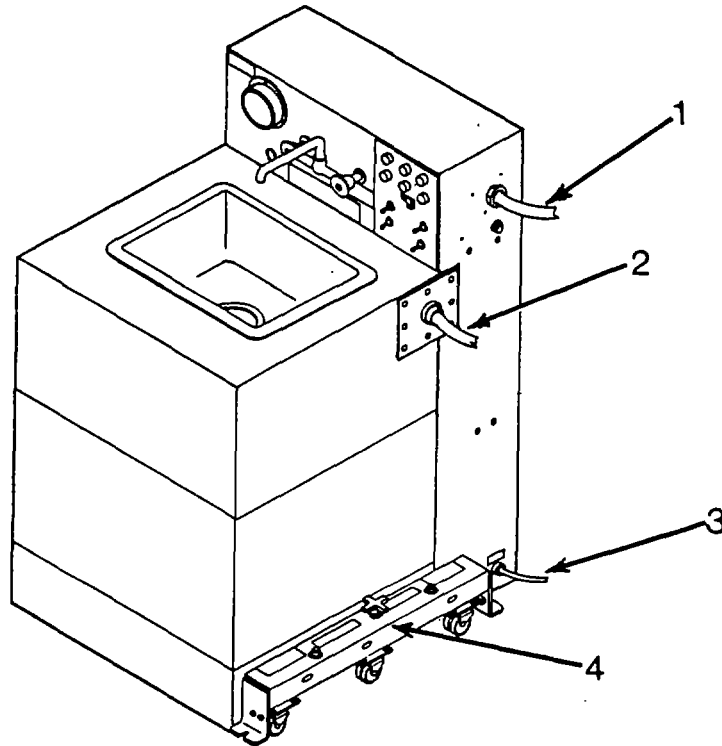

Figure 4-18. Sink Assembly
- a. Replace. (Figure 4-18.)
- (1) Place sink assembly circuit breaker in Power Distribution Panel to OFF position.
- (2) Remove sink assembly power connector (1) from wall socket.
- (3) Disconnect water supply line (2) and drain line (3).
- (4) Lower sink transport wheels using transporter knobs (4) and remove sink assembly from shelter.
- (5) Place new sink assembly in shelter.